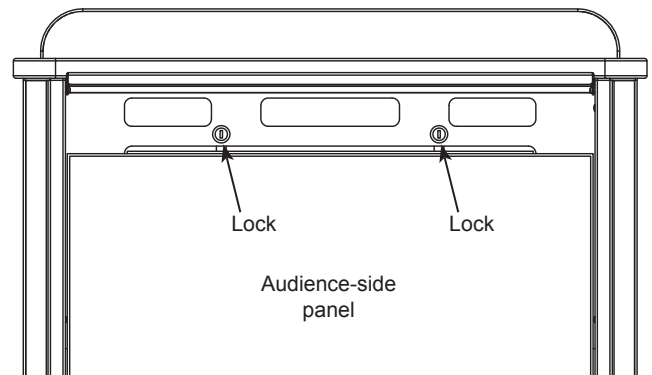

Figure 2B
2. Unlock both locks while supporting the audience-side panel. **Figure 2B.**